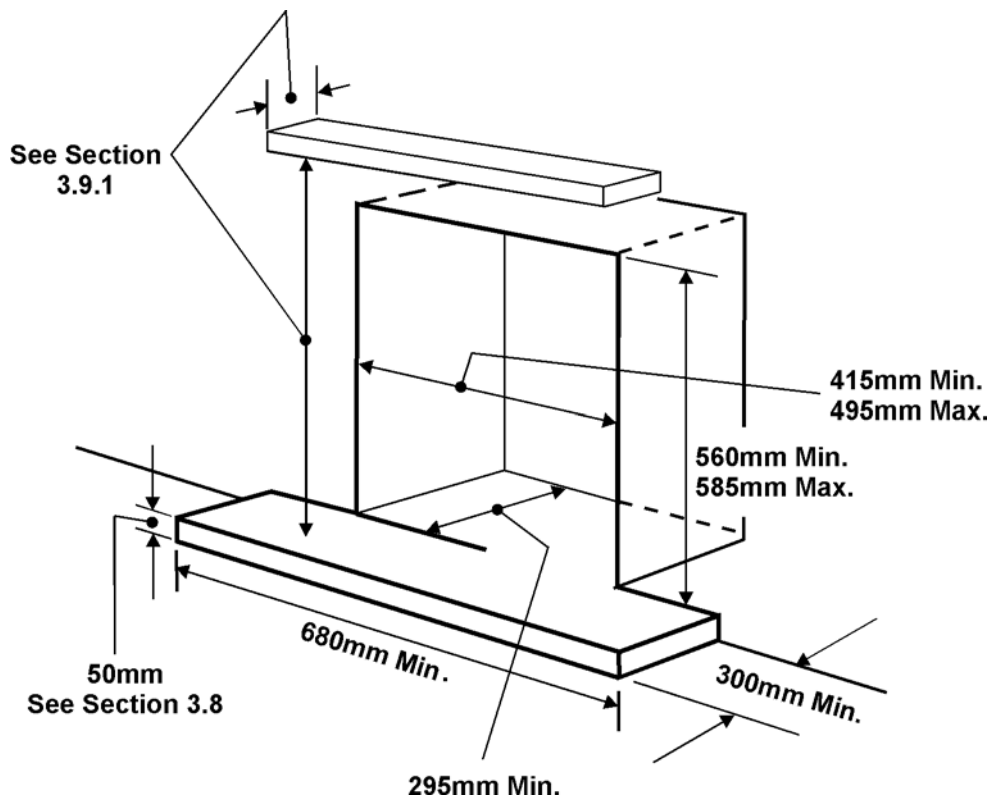

Figure 4. Hearth and Fireplace Opening
To a fireplace complete with surround and hearth as shown in figure 4 and complying with BS1251 after removal of the fireback and sufficient material behind the fireback for a debris catchment space.
- It is recommended that a hearth should be installed as in figure 4.